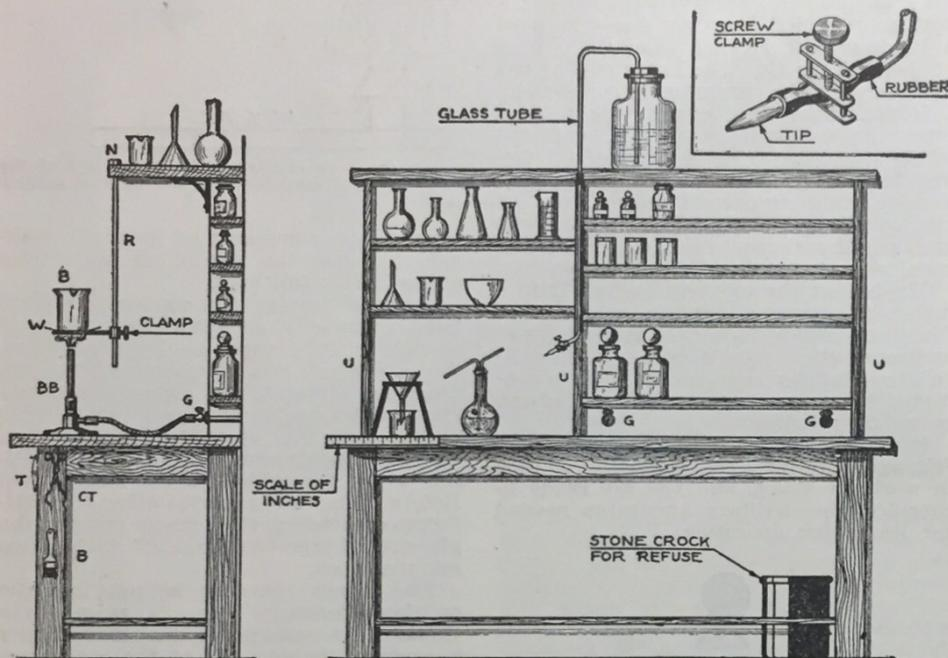

Fig. 1. A simple and well-organized chemical bench for the experimenter. Gas is to be had from hose cocks (GG). The gas line is hidden by a back-board.
The scheme shown in Fig. 1 can be used also. The bottle (A), full of water, is placed on the top shelf. By opening the pinchcock or pinch clamp No. 1 water will be delivered at (W), to a test tube, or other vessel. Opening pinch clamp